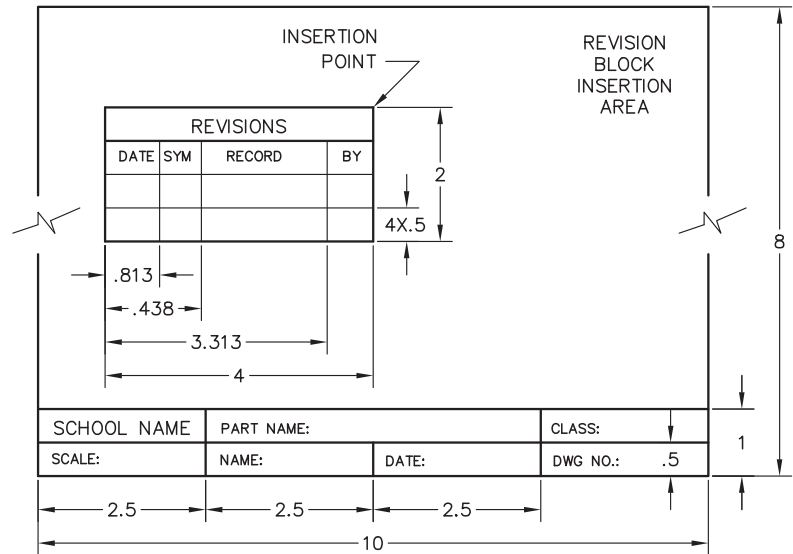

Fig. 33-5
8. Create a new drawing named **revplate.dwg**. Create the border, title block, and revisions box using the dimensions shown in Fig. 33-5. (Do not include the dimensions.) Make a block of the revisions box using the insertion point indicated. Insert the block in the upper right corner of the drawing. This drawing is also available as **revplate.dwg** on the OLC for this book, in the Drafting & Design Problems section.